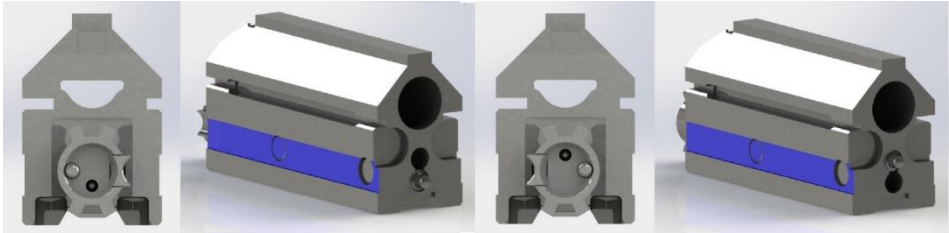

Fig. 13. Conversion kit breech bolt with the left-side case ejection (see left) and the right-side case ejection (see right)
The case extractor (7) has been modified to accommodate the offset firing pin (3) in the training conversion kit. The blue mark (8) is placed on both sides of the bolt carrier (1) and shows that the firearm has been converted to fire with training rounds. It will be visible through the case ejector port in both forms of ejection configurations (Fig. 13).